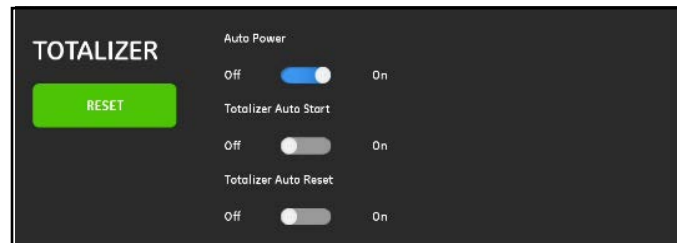

Figure 138: TOTALIZER AUTOPOWER Function
- **AUTO POWER:** When enabled, the device will automatically power on when external power is restored after an outage. If this function is activated, the AUTO START and AUTO RESET features can be enabled if required (*Figure 138*).